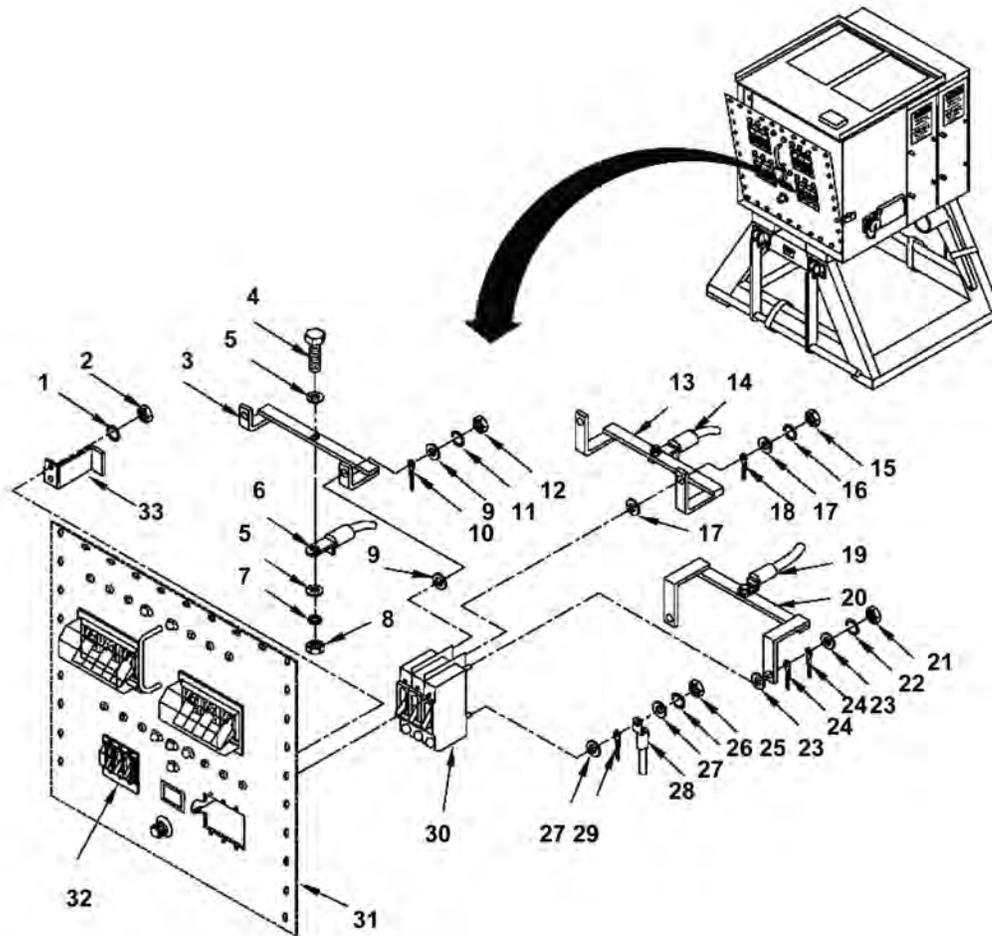

Figure 1. Bus Bars A1, B1, and C1 (PP-8440A Only).
6. Perform steps contained in WP 0027 to access rear of circuit breaker panel (Figure 1, Item 33).
7. Attach one bolt (Figure 1, Item), one flat washer (Figure 1, Item 9), and one wire (Figure 1, Item 10) to buss bar A1 (Figure 1, Item 11) by inserting through hole on top of buss bar. Attach one wire (Figure 1, Item 10), one flat washer (Figure 1, Item 9), one locking star washer (Figure 1, Item 12) and one nut (Figure 1, Item 13) to 1 bolt.
8. Connect buss bar A1 (Figure 1, Item 11) to circuit breaker/CB1 (Figure 1, Item 31) and circuit breaker/CB2 (Figure 1, Item 32) by installing four flat washers (Figure 1, Item 4), two indicator wires (Figure 1, Item 5), two locking star washers (Figure 1, Item 6) and two nuts (Figure 1, Item 7). Ensure wire (Figure 1, Item 10) on rear of buss bar (Figure 1, Item 11) is securely attached. Ensure all connections correspond to correct power phase. Remove all tags.
9. To connect buss bars B1 (Figure 1, Item 19) or C1 (Figure 1, Item 25) to circuit breaker/CB1 (Figure 1, Item 31) and circuit breaker/CB2 (Figure 1, Item 32), repeat procedure (steps b and c) used for buss bar A1 (Figure 1, Item 11).
10. Perform procedures in WP 0027 to secure circuit breaker panel (Figure 1, Item 33).